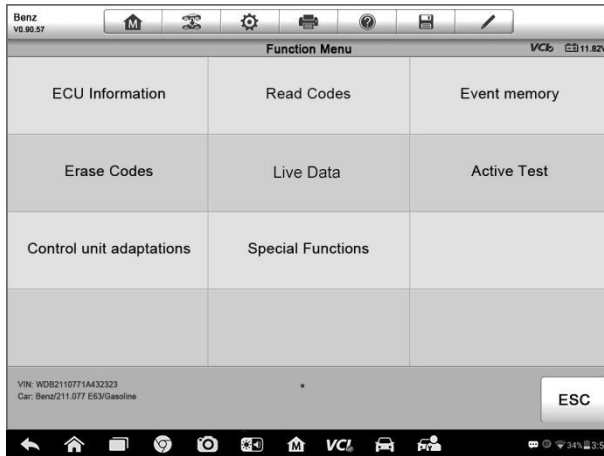

Figure 4-8 Sample Function Menu Screen
- Tab the **>** button to the right of the system item, on which you want to perform further diagnosis and other test activities. A Function Menu screen (Figure 4-8) shall then display.